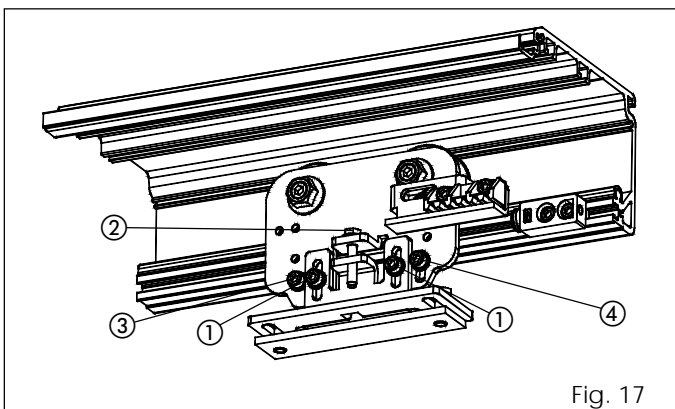

Fig. 17
- Slightly loosen the two hexagon head screws in fig. 17 ref. ①.
- Turn the screw (fig. 17 ref. ②) clockwise to raise the leaves or anti-clockwise to lower them.
- Loosen the two hexagon head screws (fig. 17 ref ③ and ④).
- Slide the screw fig. 17 ref. ④ inside the slot, so that, while the carriage is moving, the counter wheel slides on the profile without jamming.